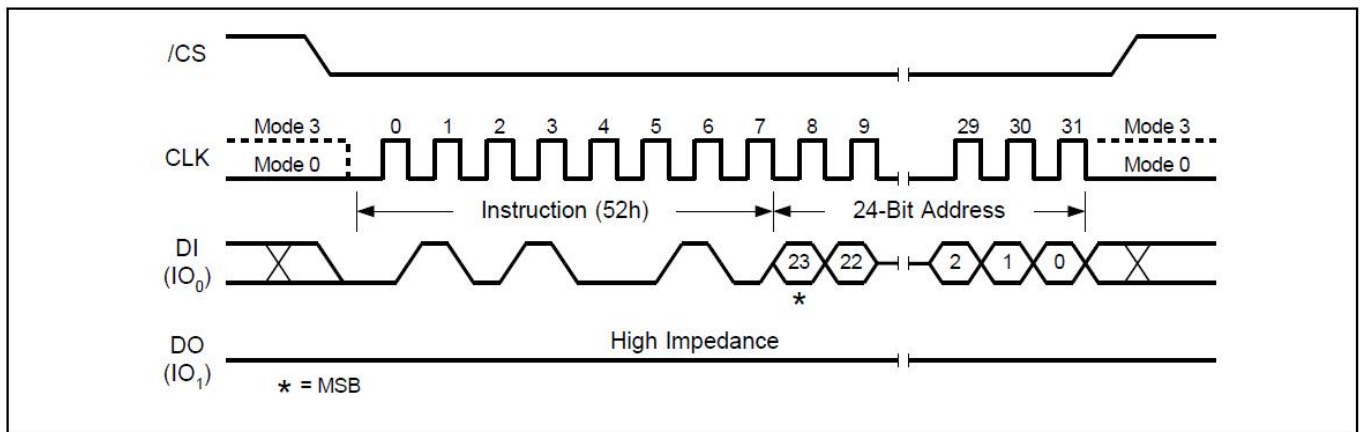

Figure11. 32KB Block Erase Sequence Diagram
The 32KB Block Erase command sequence: CS# goes low → sending 32KB Block Erase command → 3-byte address on DI → CS# goes high. The command sequence is shown in Figure11. CS# must be driven high after the eighth bit of the last address byte has been latched in; otherwise the 32KB Block Erase (BE) command is not executed. As soon as CS# is driven high, the self-timed Block Erase cycle (whose duration is Tse) is initiated. While the Block Erase cycle is in progress, the Status Register may be read to check the value of the Write in Progress (BUSY) bit. The Write in Progress (BUSY) bit is 1 during the self-timed Block Erase cycle, and is 0 when it is completed. At some unspecified time before the cycle is completed, the Write Enable Latch (WEL) bit is reset. A 32KB Block Erase (BE) command applied to a block which is protected by the Block Protect (BP2, BP1, and BP0) bits (see Table 1-3) is not executed.